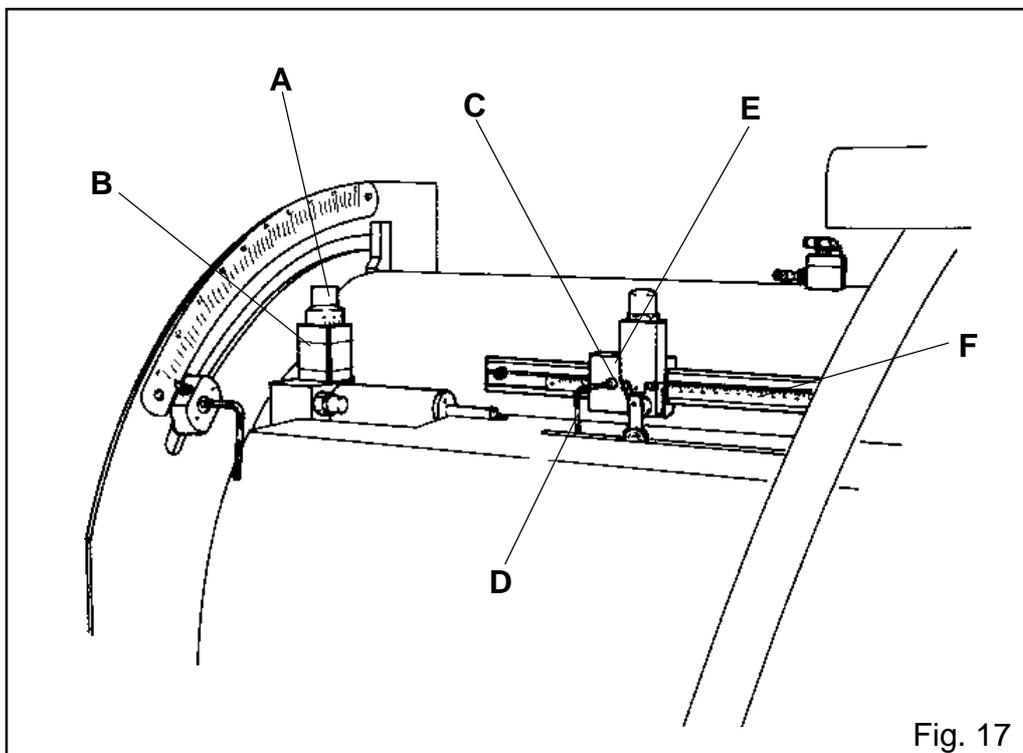

Fig. 17
- Turn knob A (Fig.17) situated on valve B (Fig.17) to clockwise direction to reduce the speed or to anticlockwise direction to increase blade's speed.
- Loosen screw C (Fig.17) by means of spanner D (Fig.17), blocking the micron support E (Fig.17).
- Move manually the micron E (Fig.17) to the right in order to increase the cutting capacity, or to the left in order to decrease the cutting capacity.
You can read the measure on the metric ruler F (Fig.17).